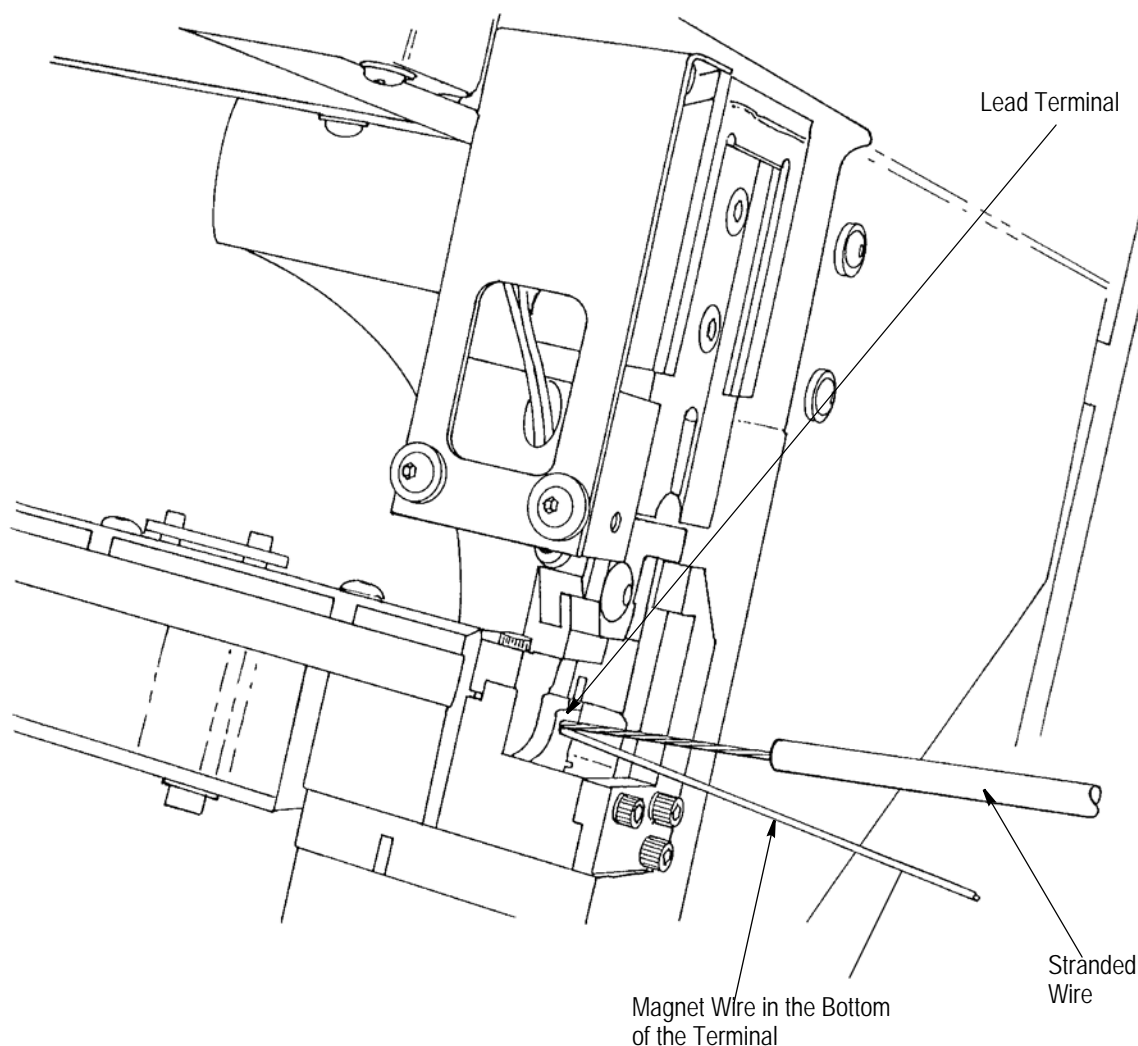

Figure 16
2. With a terminal in the "target area," place magnet wires or a combination of stranded wire and magnet wire in position, as shown in Figure 16, with the magnet wire toward the front of the terminal.
4. Place wires in the "target area," aligned with the terminal. See Figure 16. When using stranded magnet wire, position as shown in Figure 16. When splicing two magnet wires, they may be in any position with respect to each other. The crimp tooling will automatically position them side-by-side in the bottom of the terminal as crimping occurs.